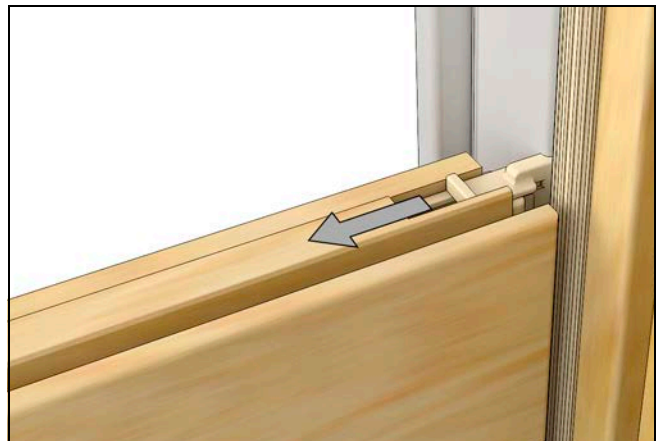

Figure 90
6. Retract both latches simultaneously and tilt sash inward slightly. See Figure 90.